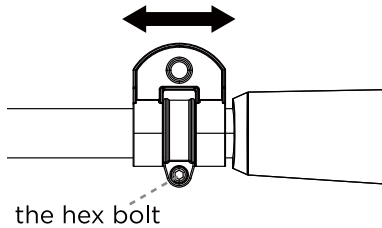

Fig. 16
1. Change the location of the shoulder strap hook if required. Loosen the hex bolt and move the shoulder strap hook to a suitable position. Re-tighten the hex bolt (d). (Fig. 16)